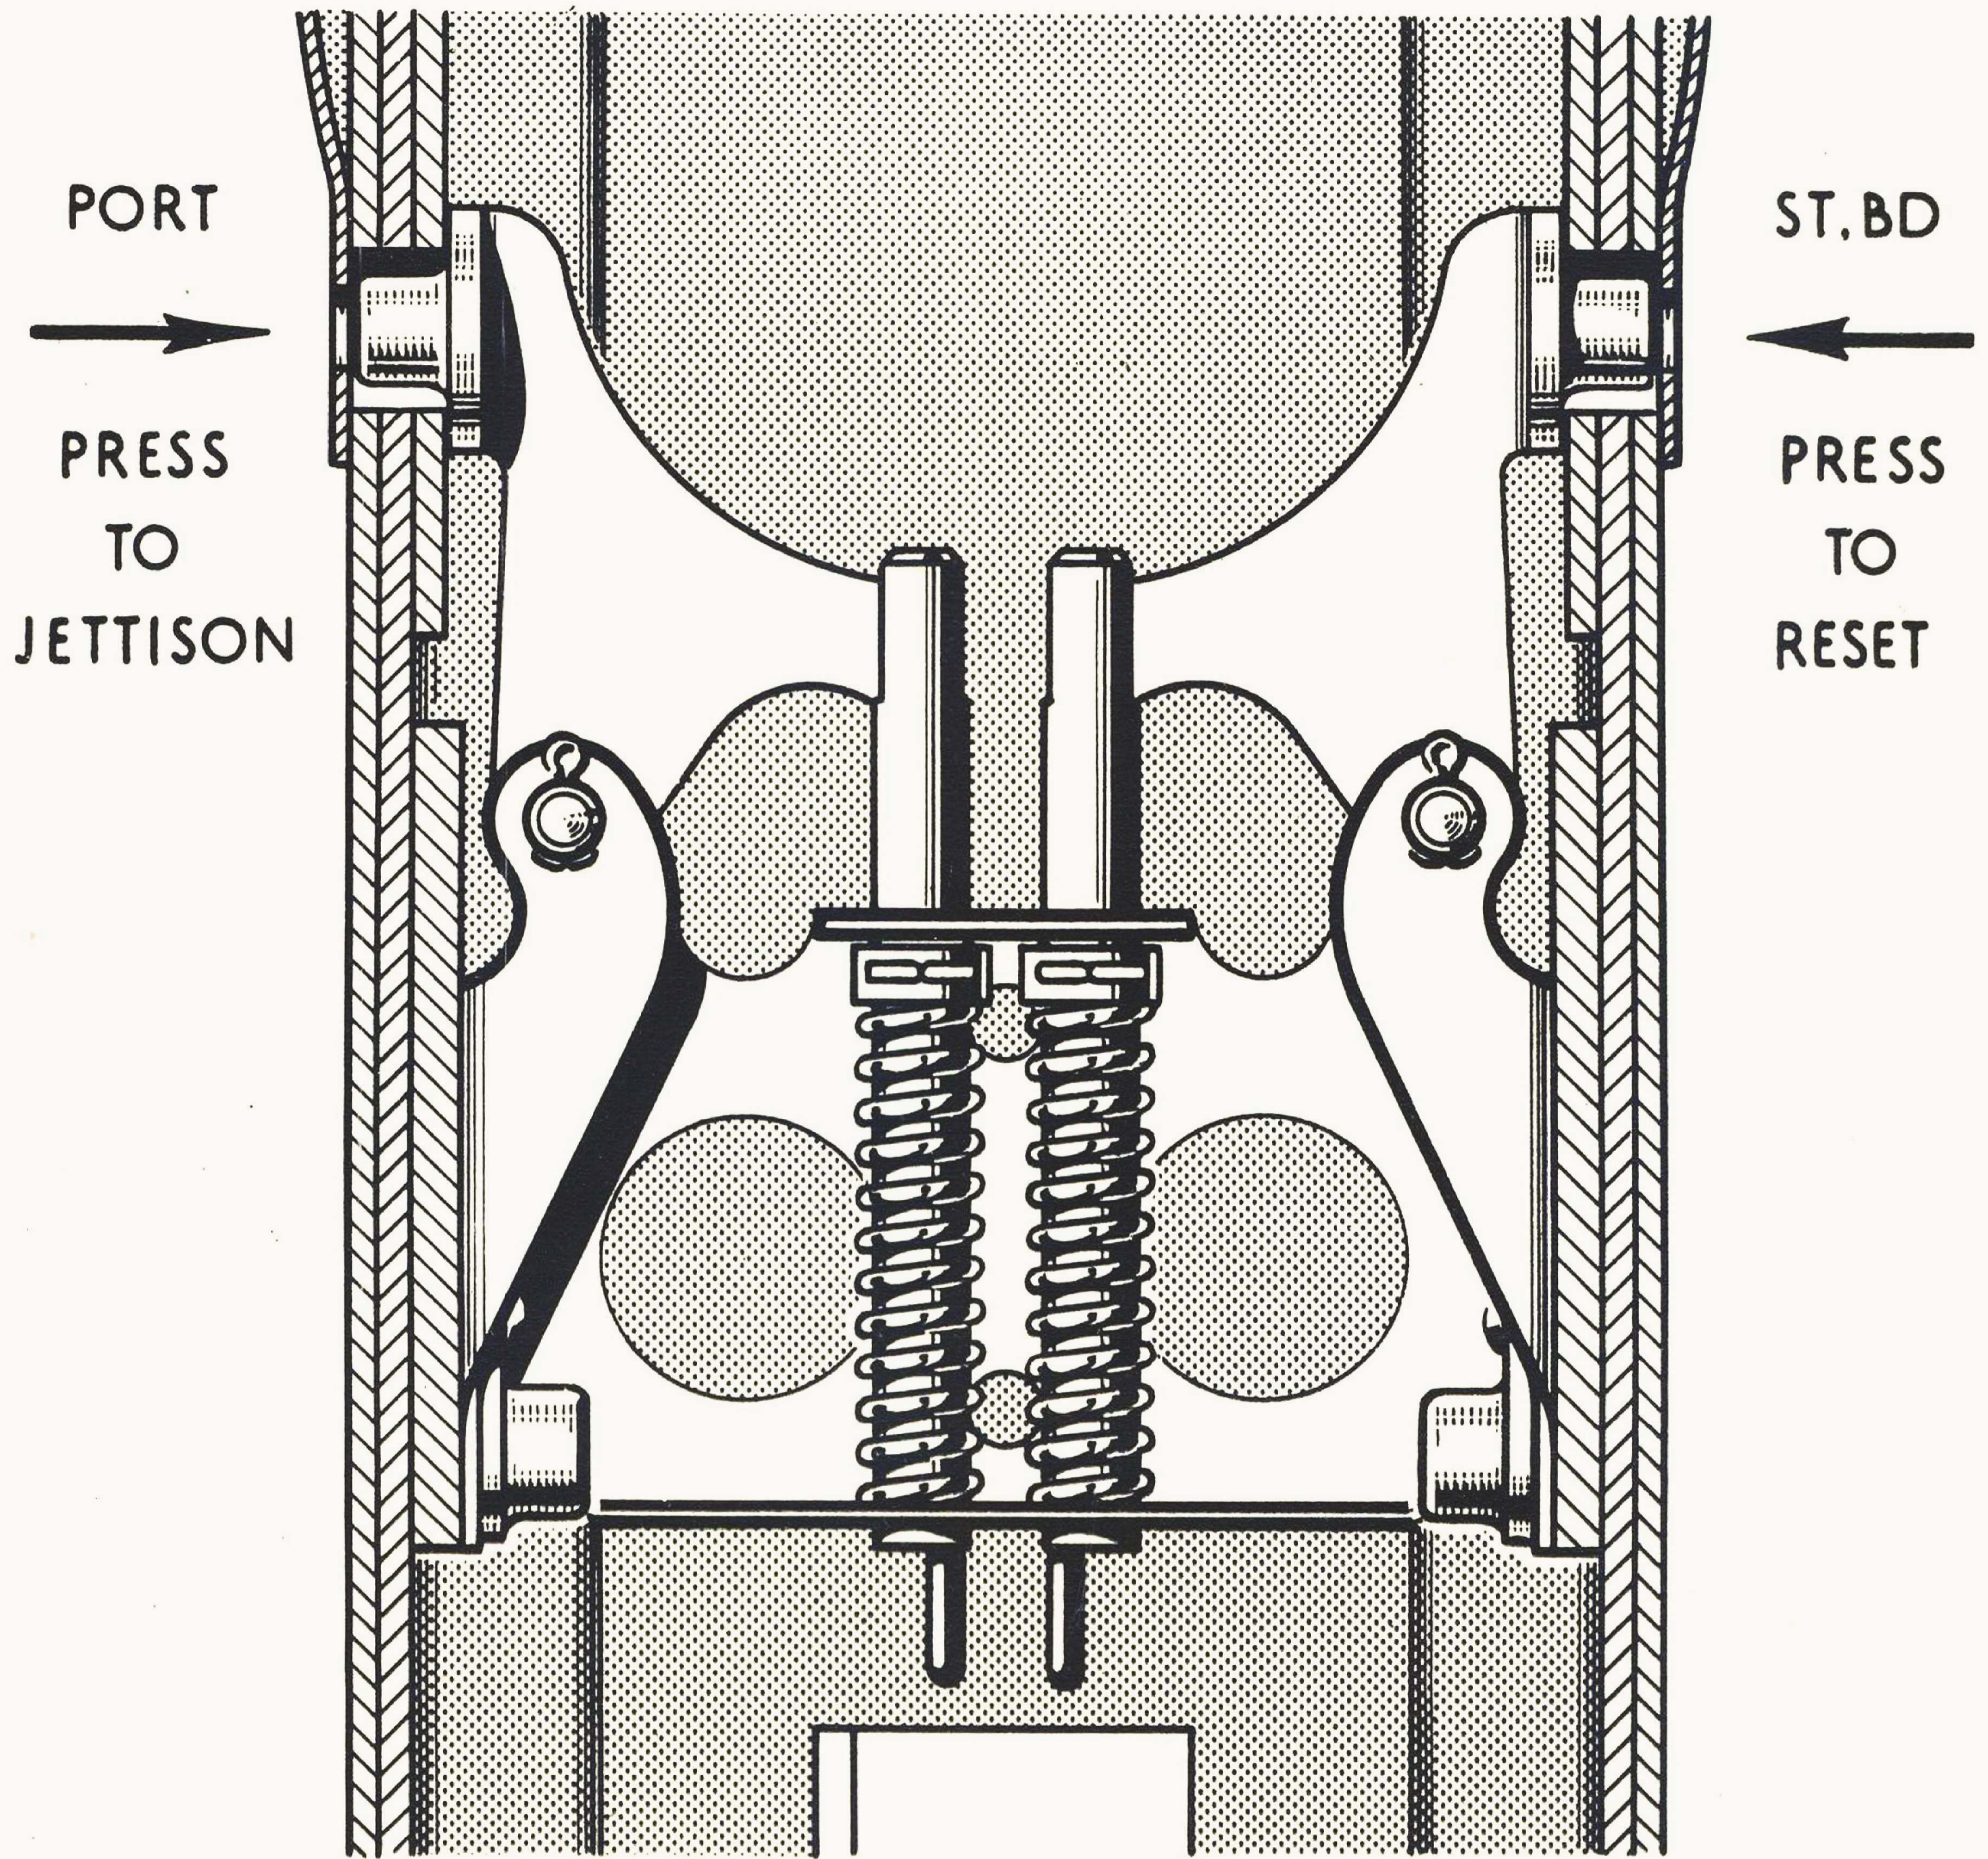

FIG. 4 JETTISON AND RESET MECHANISM
31. The procedure for fitting the drop fuel tanks, the sequence for which must be strictly adhered to, is illustrated in fig.3. The jettison and reset mechanism is illustrated in fig.4.
2. Remove rear door (6) on outboard side of pylon and check that the change over switch (5) is in the DOWN position.
3. If the electro-mechanical release (9) is not open, press jettison button (3) shown also on fig.4, on port side of pylon and then reset by pressing the reset button on the stbd. side of pylon. (Should the electro-mechanical release be already open, only the reset button on the stbd. side should be used.)
4. Remove the access panel in the wing top skin and attach a crutching spanner (1) HAWKER Part No. B.204233 to the release housing support (2) and lower release housing.
5. Connect plug (11) on drop tank to socket in pylon.
6. Raise the tank until the tank lug (10) is engaged by electro-mechanical release (9).
7. Now, by means of the crutching spanner (1) raise the tank until the fore and aft spigots are engaged in the holes provided in the sole plate (8) and the tank adaptors (7) are making contact with the fuel and air valves in the valve body and check that the electrical cable from the tank to the plug (11) is not trapped between the tank and the sole plate.
9. Check that the release is fully locked by means of the cocking test socket (4).
11. Replace the rear door (6).
1. Support the drop tank and press the jettison button (3) and Fig.4, on the port side of pylon.